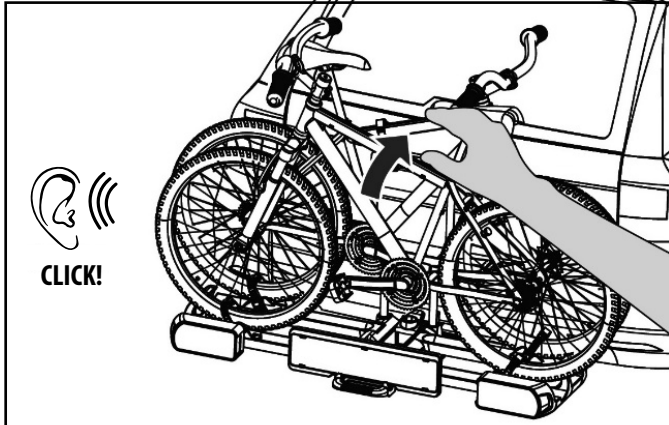

Figure 31: Folding up the bicycle carrier
- Fold up the bicycle carrier before driving (Figure 31).